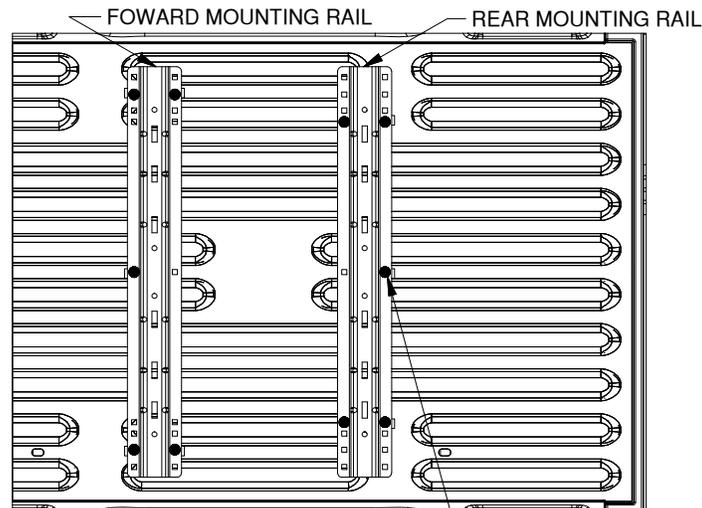

FIGURE A2: Detail view over bed, showing drill locations for the forward and rear bed rails.
2. **Mark hole locations:** While carefully ensuring the mounting rail does not move, use a center punch tool to mark the 5 drill locations on the forward rail. See Figure A2 for hole marking locations for this installation (rear rails will install on a later step). Once all 5 forward rail locations are clearly marked, move the bed rail out of the way and drill each location with an 1/8" drill.
3. **Drill rear mounting holes.** Using the same methods as used for the forward mounting rail, mark and drill the 1/8" holes for the rear mounting rail. Refer to "DRILL FORWARD MOUNTING HOLES" section, step 2, on a previous page. Notice that the hole locations are slightly different than the forward rail, see Figure A2 (on the second page).